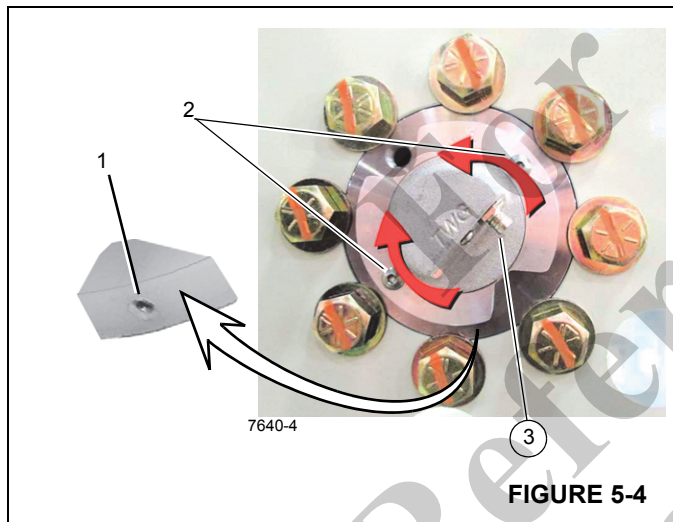

FIGURE 5-4
7. Loosen the set screw (1, Figure 5-4) on the side of the DRI flange.
8. Using the spanner wrench holes (2, Figure 5-4) rotate the DRI so that the connector (3) is pointed down.
9. Tighten the set screw (1, Figure 5-4) after the DRI is positioned as desired.